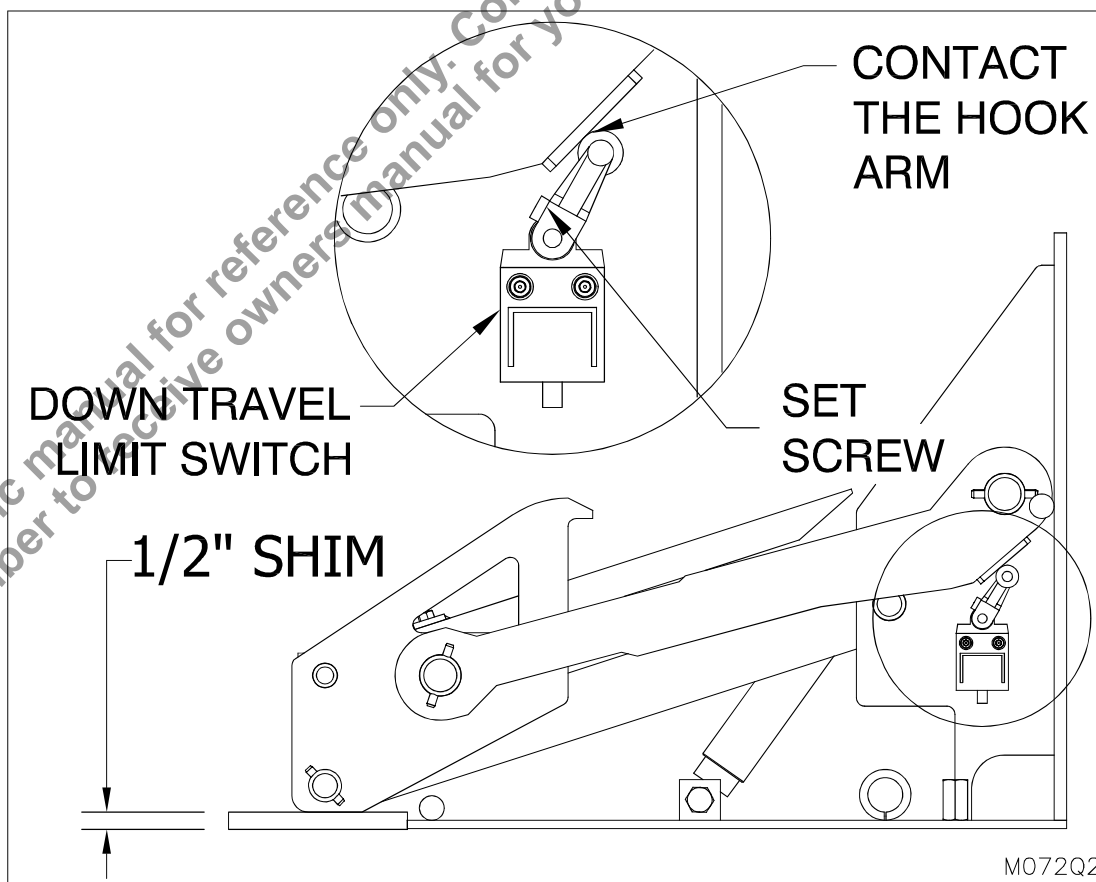

Figure 22: Setting the Down Travel Limit Switch
- b) Raise the restraint and place a 1/2" shim under the hooking arm (See "Figure 22: Setting the Down Travel Limit Switch" on page 30).